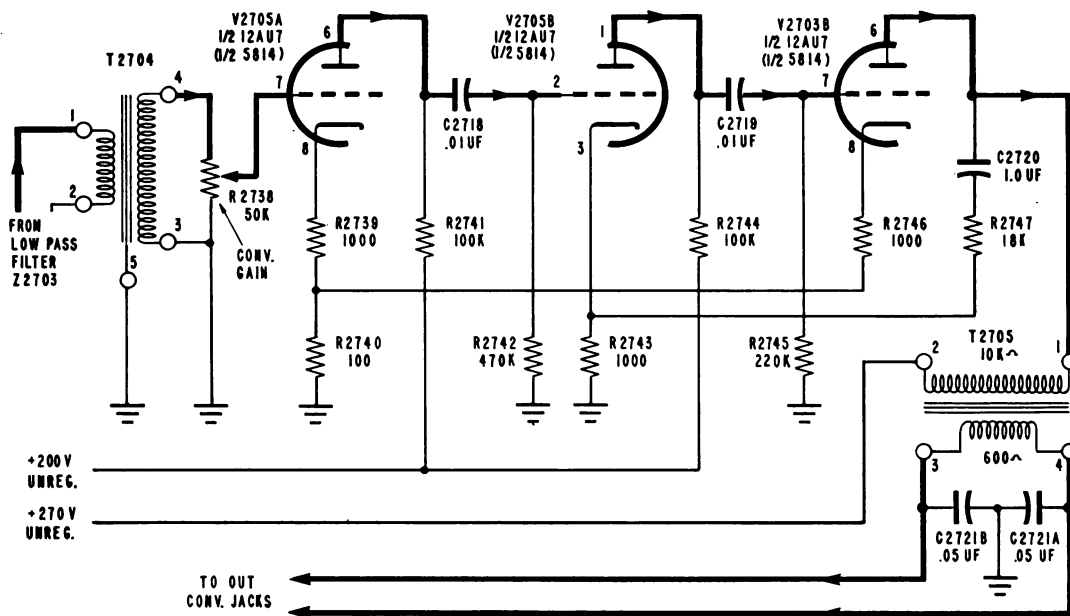

Figure 2-23. Schematic Diagram of Amplifier for Converted Signals
e. **CONVERTED AMPLIFIER CIRCUIT.** - The schematic diagram of figure 2-23 shows the amplifier for converted signals. This amplifier consists of three 12AU7 type triode stages and is similar to the amplifier in the Electronic Frequency Converter CV-243/FCC-3, except that the amplifier in the CV-244/FCC-3 has a 12AU7 in the input stage instead of a 12AX7. Performance of the two amplifiers is about the same. In the CV-244/FCC-3 both current and voltage feedback is used to obtain a 600 ohm output impedance. Current feedback is obtained by a common cathode resistance R2740 (100 ohms) for V2703B and V2705A. Voltage feedback is obtained by coupling voltage from the output stage V2703B back through C2720 (1.0 mf) and R2747 (18,000 ohm) to the cathode of the second stage V2705B. R2738, a 50,000 ohm potentiometer, controls the output level of the circuit.